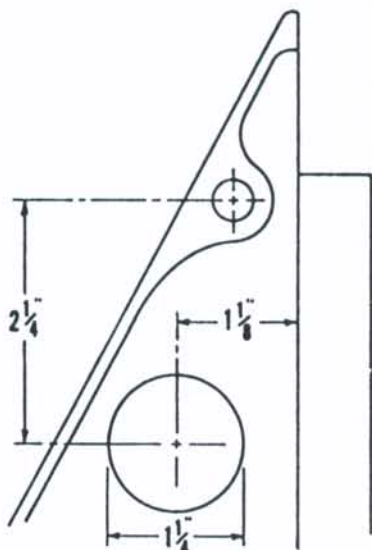

Fig. 1—To cure vapor lock on models K399-2 and K440-2, cut hole in end plate to dimensions shown above as outlined in text.
**NOTE:** On models K399-2 and K440-2 encountering vapor lock, a 1 1/4 in. hole cut in end plate adjacent to carburetors will allow air to be blown across carburetors. Cut hole using dimensions in Fig. 1. Access to end plate is possible by removing starter and blower housing, or by removing intake manifold assembly. Stuff rags in intake ports if hole is cut from carburetor side.